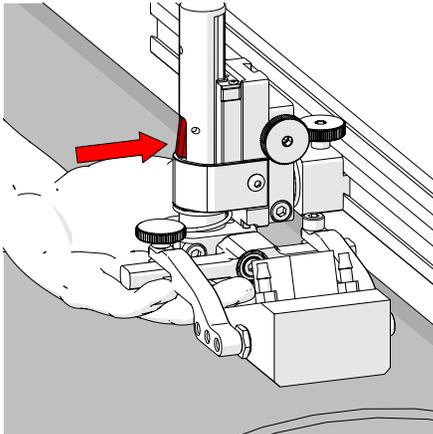
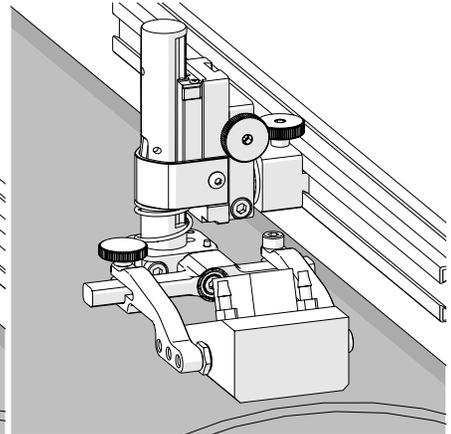

Fig. 131 - Press latch button
Fig. 132 - Lower toward scan surface
4. Lift the yoke slightly and press the latch button (Fig. 131), then slowly lower towards scanning surface to apply spring pressure to the wedge (Fig. 132).